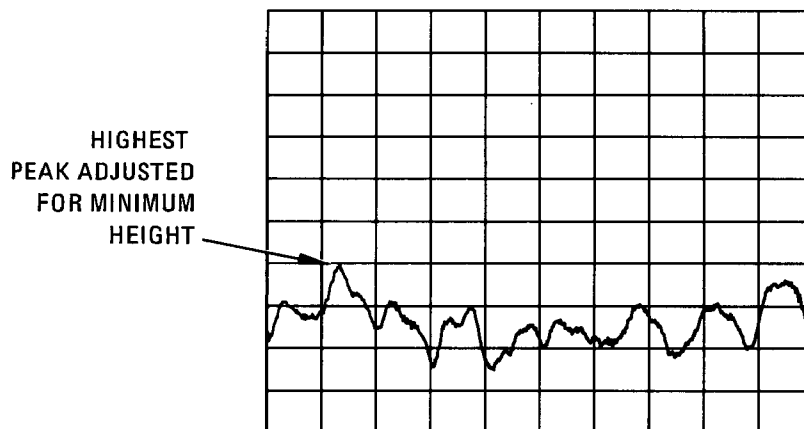

Figure 5-52. Oscilloscope Display at A26TP3 MOD LVL with No Squegging
The oscilloscope display should look similar to Figure 5-52.
11. The oscilloscope display should be similar to Figure 5-52. Adjust A24R12 MIN control so that the highest peak on the oscilloscope display is minimum.